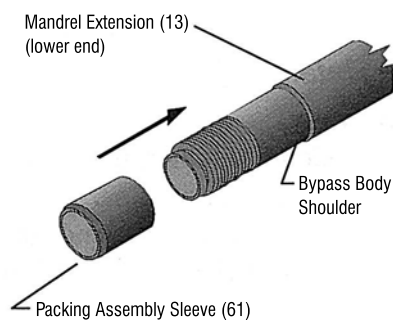

Figure 6
1. Slide Packing Assembly Sleeve over the lower end of Mandrel Extension (13) until it is against the Bypass Body Shoulder. (See Figure 6 below.)
2. Coat Packing Assembly Sleeve and entire length of Mandrel Extension with Bowen® Jar Lube (69). Do not use Itcolube (68) or grease.
1. Coat only the upper threads of the Connector Body with Itcolube (68), including OD surfaces on both ends of the threads, and the 15° shoulder.
3. Remove the Packing Assembly Sleeve (see Figure 6 below) from Mandrel Extension (13).